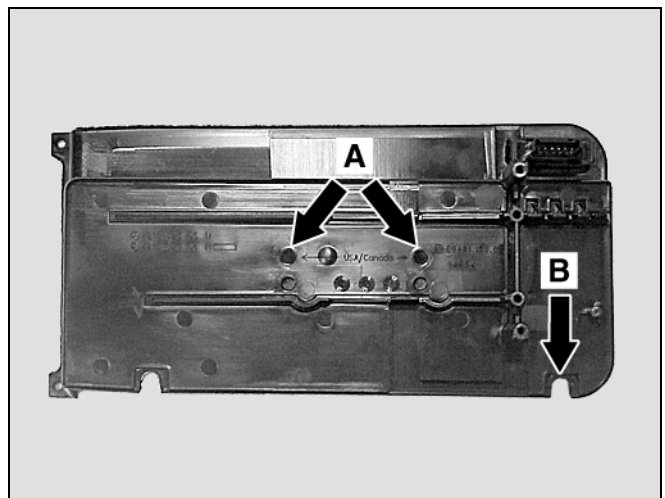

Figure 11
9. Drill out the two semi-punched holes in the false floor underside with a 4.5-mm drill bit (A, Figure 11).
10. Drill, or file, out the upper semi-punched notch of the false floor—for the coil-cord (B, Figure 11).